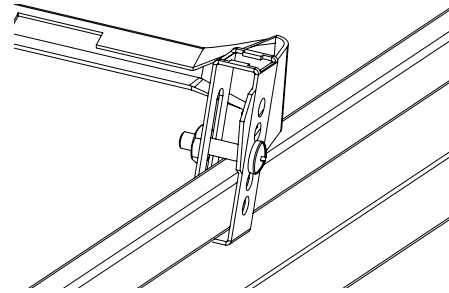

FIGURE 3
- Attach luminaire securely to grid using brackets, screws and nuts provided or wiring to grid members. See Figure 3.